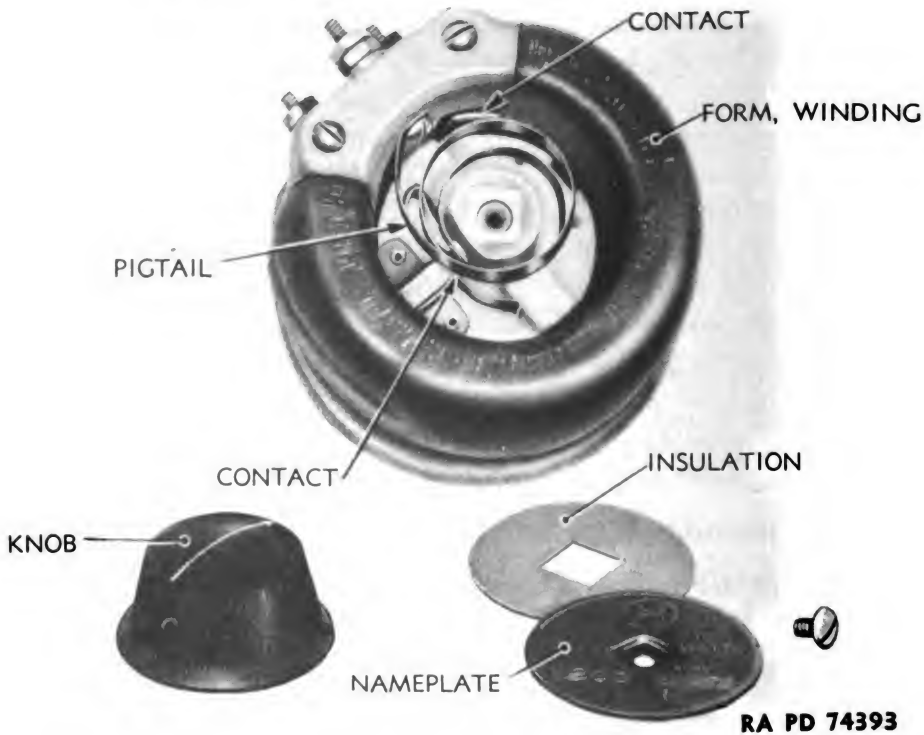

Figure 225 – Lamp-dimming Rheostat Disassembled
(3) Unscrew nut holding rheostat shaft sleeve against the face of the panel, and slide rheostat out at the back of the panel.
c. **Disassembly.** Take out fillister-head screw holding nameplate and insulation to shaft. Remove name plate and insulation (fig. 225).
(1) Install rheostat at back of panel with shaft projecting through panel. Secure in place with nut on shaft sleeve set tight against face of panel.
(2) Twist knob on shaft, and secure by tightening screw through knob against flatted part of shaft.